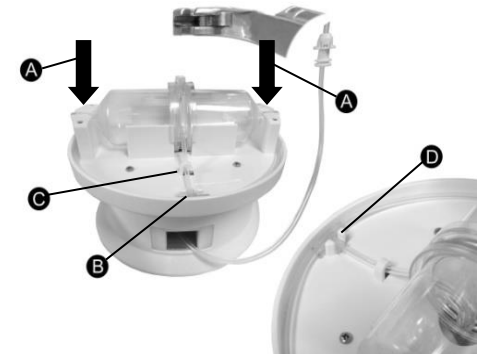

Figure 3. Install the separation chamber into the caddy and place tubing into slot and under retainer.
6. Install the platelet separation chamber into the centrifuge caddy, making certain that both ends of the chamber are properly located in the caddy notches (see Figure 3, A). Place T-connector in slot (see Figure 3, B), and tubing under retainer on top surface of caddy (see Figure 3, C). Press tubing down into groove on outer edge of chamber caddy (see Figure 3, D).